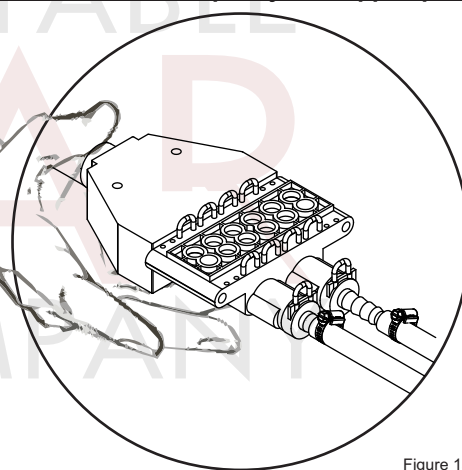

Figure 15
**STEP 13:** Grab soda gun spout and place it in the gun holder, as shown in Figure 15. While doing the latter make sure to hold manifold in your hands. While holding it, reach out for the outlet (B) hoses on the right side of Ice Bin. Install hoses in your preferred order. Keep in mind each gun will make use of two soda flavors each. Use provided hose clamps to tighten.